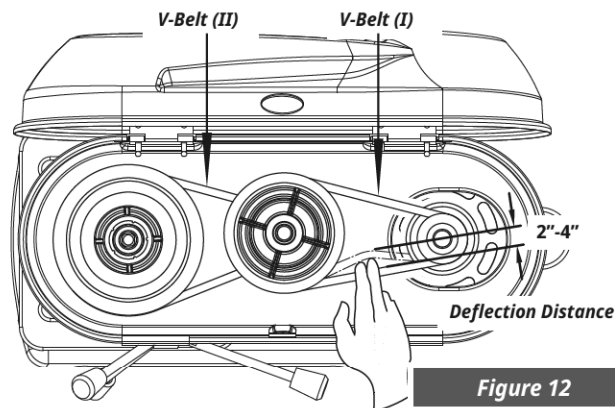

Figure 12
7. Slide the motor back to tension the V-belts again. The V-belts are correctly tensioned when it gives way slightly when pressed. Deflection distance of belt is 2"-4". (See Figure 12)